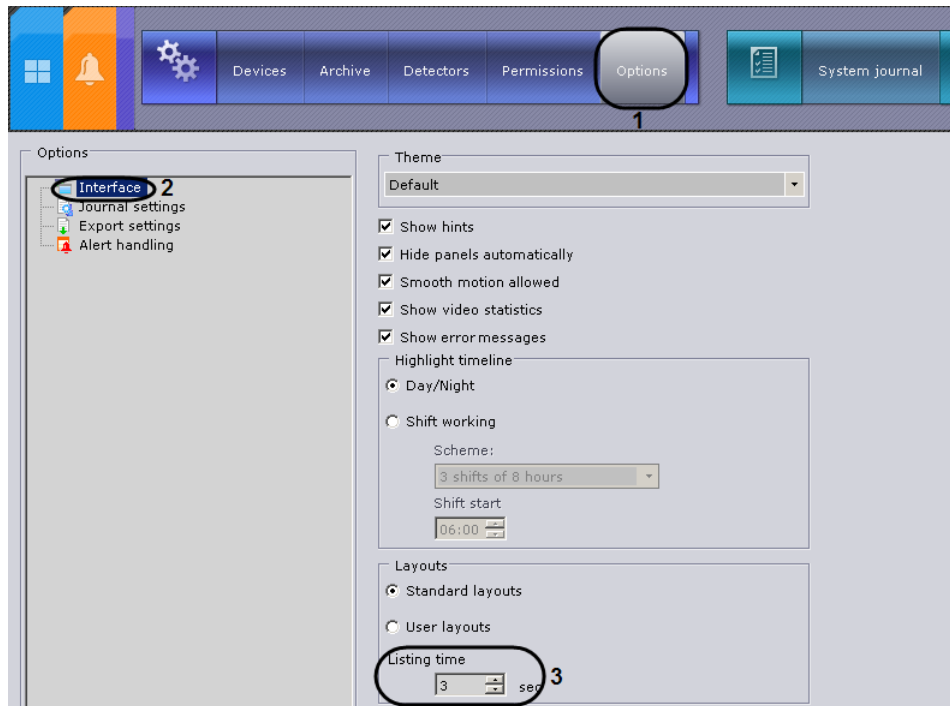

Fig. 6.6—2 Configuring slideshow mode
1. Go to **System settings**⇒**Options**⇒**Interface** (Fig. 6.6—2, 1-2).
2. Set the slideshow dwell-time in seconds in the **Layouts** configuration group (see Fig. 6.6—2, 3).